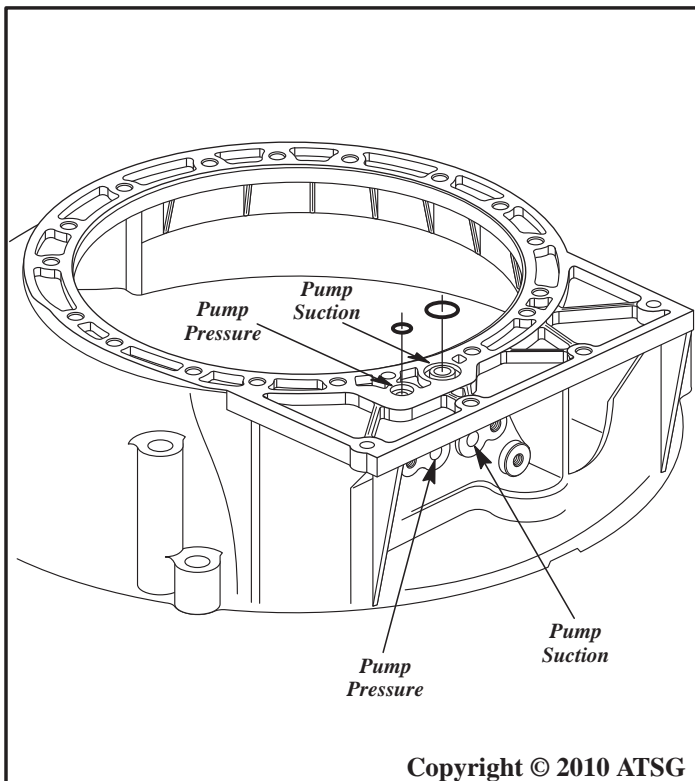

Figure 41
8. Some models of the "09D" family route line pressure through the converter housing and will have two "O" ring seals on the back side of the converter housing, as shown in Figure 41.